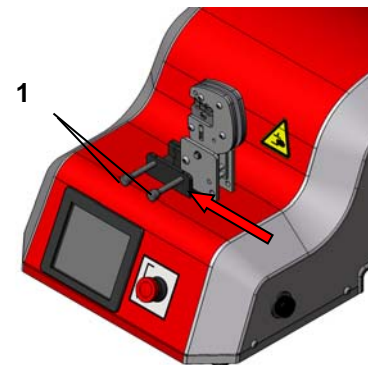

Fig. 10.02
- **Exception:** Put on the CSE 30 tool head from behind (Fig 10.02) and pay attention that the ram of the tool head engages correctly into the ram of the machine.